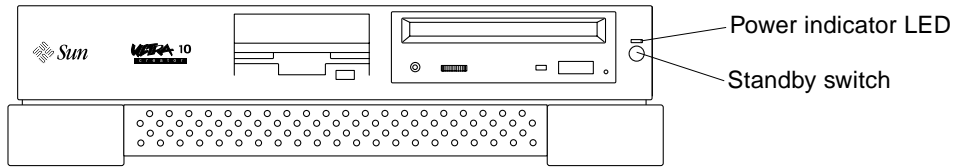

FIGURE 1-10 Ultra 5 System Standby Switch
5. If the system does not begin to power up, press the Standby switch (FIGURE 1-10), or press the Sun Type-5 keyboard Standby key (FIGURE 1-11) or the Sun I/O Type-6 keyboard Power key (FIGURE 1-11).